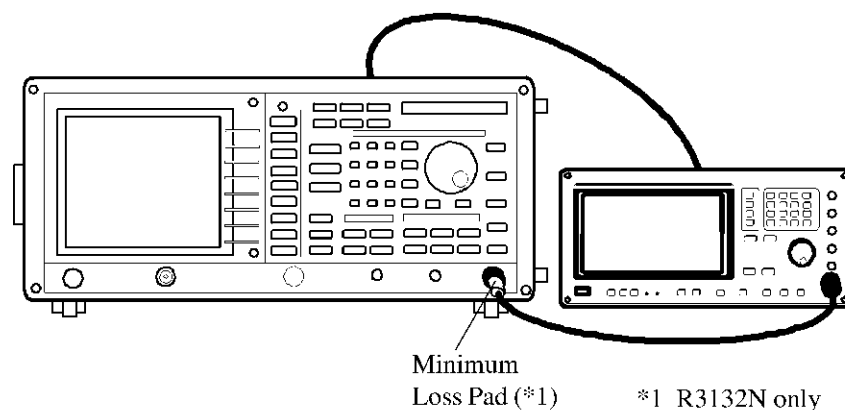

Figure 5-29 Setup for Checking the Linearity Error (Internal Mixer Mode)
1. Connect the instruments as shown in Figure 5-29.